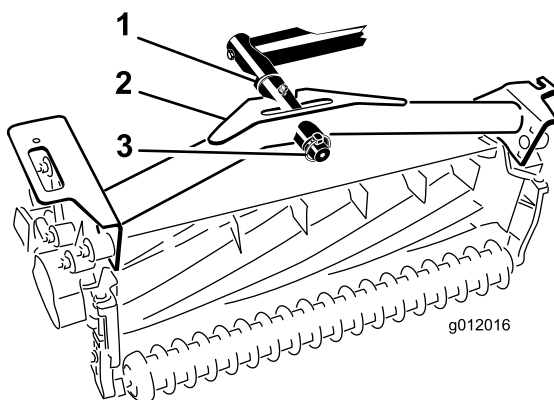

Figure 20
2. Slide the cutting unit carrier frame onto the pivot rod and secure it with a lynch pin (Figure 20).